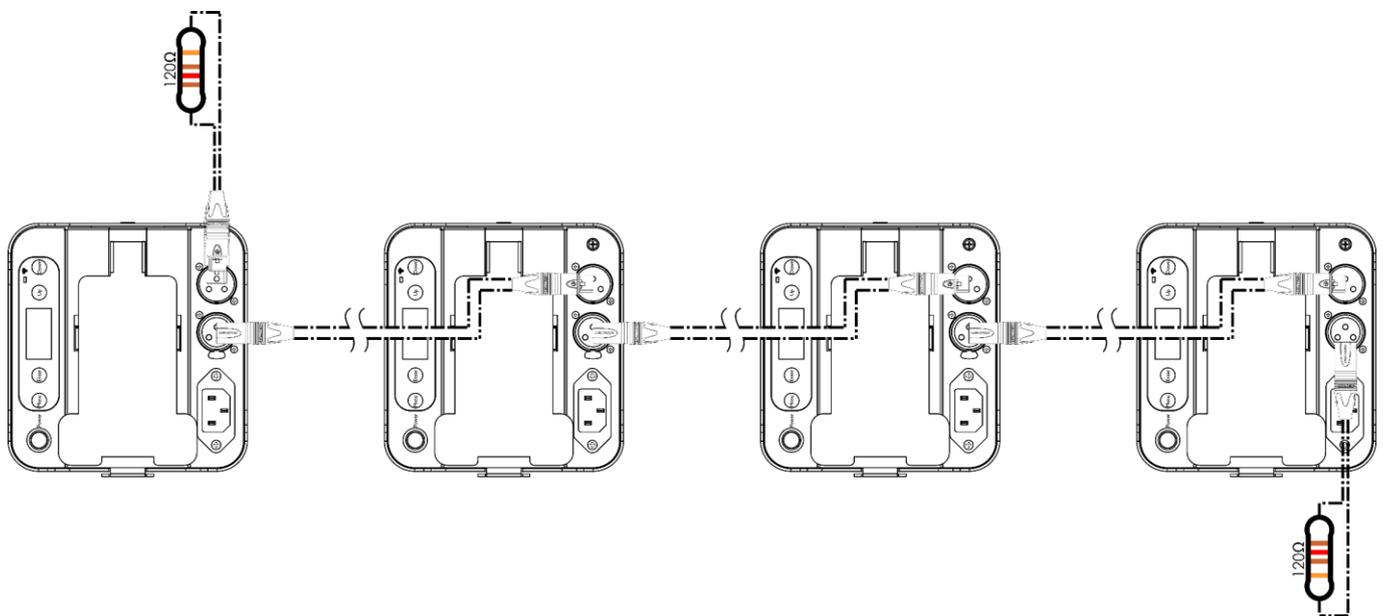

Fig. 06
- 04) Link the units as shown in Fig. 06. Connect a DMX signal cable from the first unit's DMX "out" socket to the second unit's "in" socket. Repeat this process to link the second, third and fourth unit. You can use the same functions on the master device as described on pages 24–25 (Manual, Auto or Built-in programs). This means that you can set your desired operation mode on the master device and all slave devices will react the same as the master device.